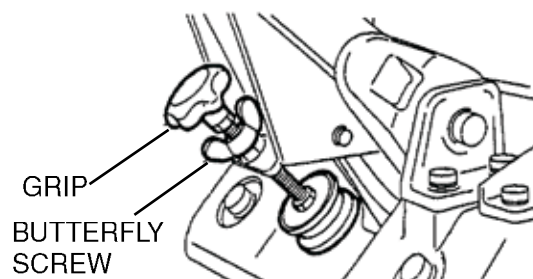

Figure 12. Handle Adjustment
1. Loosen the butterfly screw (Figure 12).